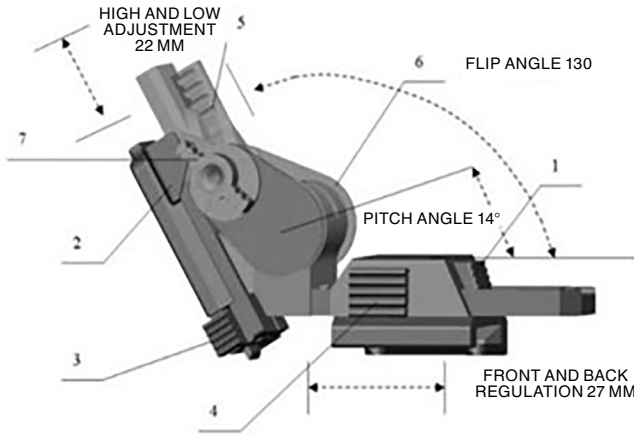

FIGURE 2.23. OPERATION AND PARAMETER DIAGRAM OF HELMET MOUNT
(1) Ensure that the batteries are installed per paragraph 2.3.2. Don the helmet mount per instructions in paragraph 2.3.5. The goggles can be detached from the helmet mount of the night vision goggles by pressing the release button 1, as shown in Figure 2.23;
(2) By locking or releasing the helmet button 2, the night vision goggles mount can be locked or released;
(3) The lock or release mode of the night vision goggles stand can be achieved by pressing the lock or release mode with the button 3. In lock mode, the night vision mount cannot be manually removed from the helmet. In release mode, the night vision mount can be manually removed from the helmet;
(4) By pressing the front and rear adjustment button 4, allows the front/back adjustment of the goggles. Release the button, you can fix the front/back position of the main unit;
(5) By adjusting the locking button 5 up and down, the operation can realize the upward and downward adjustment and locking of the goggles;
(6) When the host is connected, through the host flip button 6, the host can be “flipped up” to the standby position by the mount;
(7) The tilt angle of the host can be accurately adjusted through the tilt button 7;
The indication of helmet mount is shown in Figure 2.23.